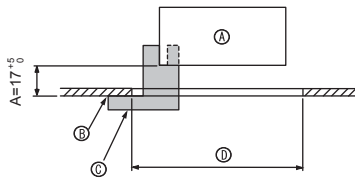
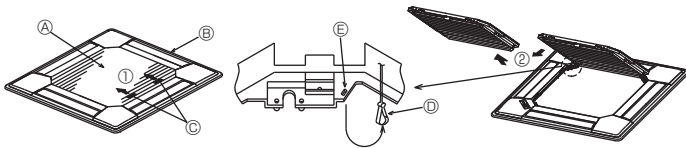
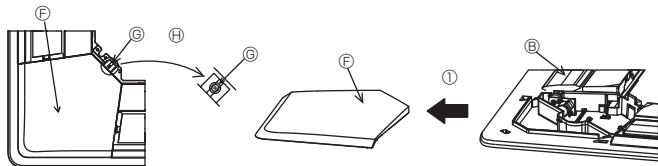

Fig. 6-2
Fig. 6-3
Fig. 6-4
①	Grille	1	950 × 950 (mm)
②	Screw with captive washer	4	M5 × 0.8 × 25
③	Gauge	1	(Divided into four parts)
④	Fastener	3
⑤	Screw	4	4 × 8
⑥	Screw	1	4 × 12
⑦	i-see sensor corner panel	1	for PLP-6BAE
6.2. Preparing to attach the grille (Fig. 6-2)
- With the gauge ③ supplied with this kit, adjust and check the positioning of the unit relative to the ceiling. If the unit is not properly positioned relative to the ceiling, it may allow air leaks or cause condensation to collect.
- Ⓒ Gauge ③ (inserted into the unit)
6.2.1. Removing the intake grille (Fig. 6-3)
- Slide the levers in the direction indicated by the arrow ① to open the intake grille.
- With the intake grille in the "open" position, remove the hinge of the intake grille from the grille as indicated by the arrow ②.
6.2.2. Removing the corner panel (Fig. 6-4)
- Remove the screw from the corner of the corner panel. Slide the corner panel as indicated by the arrow ① to remove the corner panel.
[Fig.6-3, 6-4]